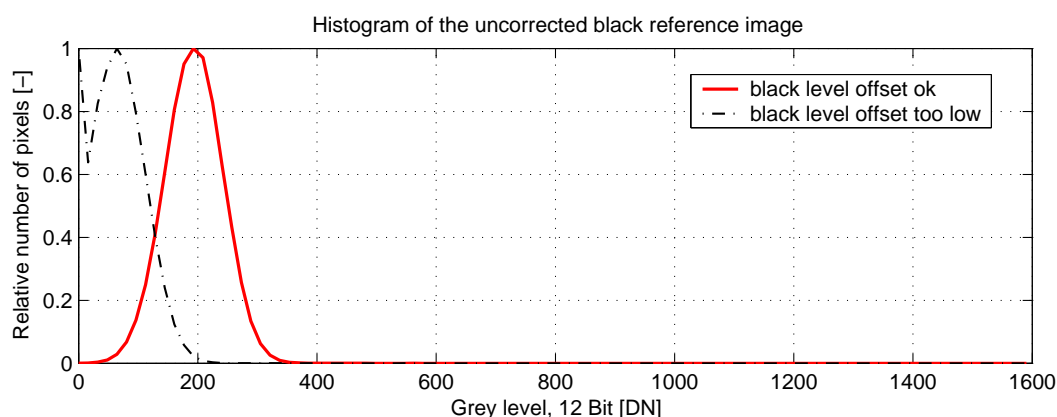

Figure 4.26: Histogram of a proper black reference image for offset correction
- It may be necessary to adjust the black level offset of the camera. In the histogram of the black reference image, ideally there are no grey levels at value 0 DN after adjustment of the black level offset. All pixels that are saturated black (0 DN) will not be properly corrected (see Fig. 4.26). The peak in the histogram should be well below the hot pixel threshold of 1008 DN @ 12 bit.